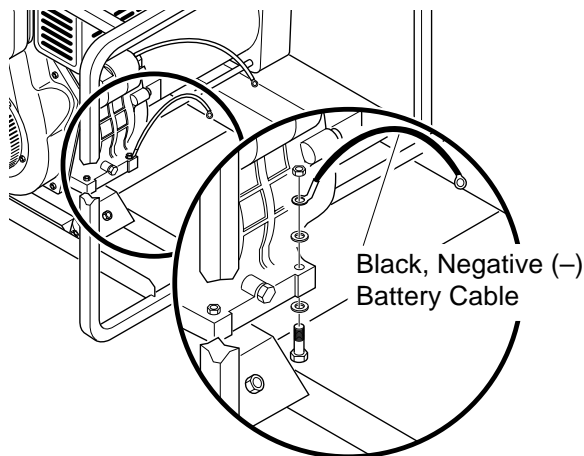

Figure 9 - Connecting Black, Negative (–) Battery Cable to Engine Block
2. Attach the black, negative (–) battery cable to the engine block. Use the bolt, nut, and two washers provided with the battery cables. Attach cable as shown in Figure 9.